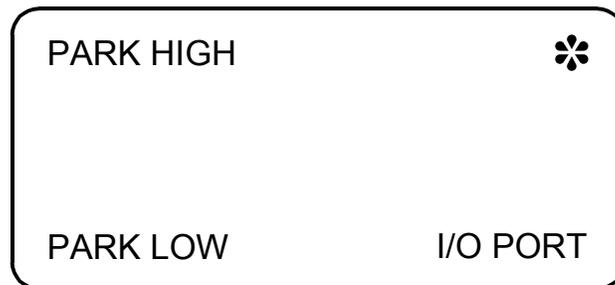

Figure 6-2 ❁ (Daisy) Key Display
1. While the operating display is visible press and hold down the ❁ (Daisy) key to view the ❁ (Daisy) key display (Figure 6-2), press the MENU key to extend the I/O Port slot, then release both keys. The I/O Port door opens automatically when the I/O Port slot extends.
While the operating display is visible, press and hold down the ❁ (Daisy) key to view the ❁ (Daisy) key menu (Figure 6-2), press the ▲ (UP) or ▼ (DOWN) key to execute the PARK HIGH or PARK LOW command, then release both keys.